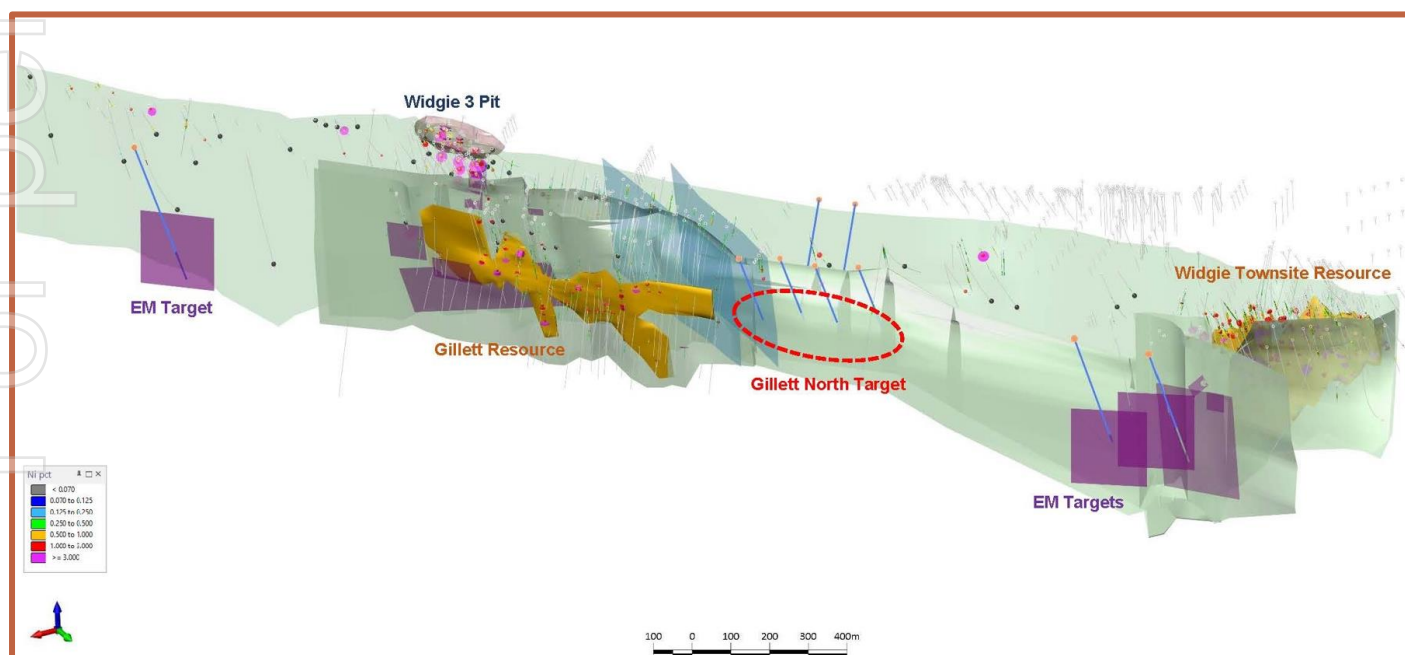

Figure 4 – Oblique long section looking west showing additional drill targets proximal to the current Gillett Mineral Resource
Whilst the assays reported herein relate to the Gillett mineralisation, a number of drillholes completed highlight the potential for mineralisation to extend beyond the current drilling envelope. To test this, downhole electromagnetic (EM) surveying is planned to be completed on a number of holes at the northern and southern end and down dip from Gillett (Figure 4).
Furthermore, drilling is also planned to target historically identified EM plates which are interpreted to be more conductive and therefore represent the more prospective zones of the interpreted basal contact. These EM targets are proximal to both the Gillett and Widgie Townsite mineralisation. Figure 4 shows the location of these planned drillholes.